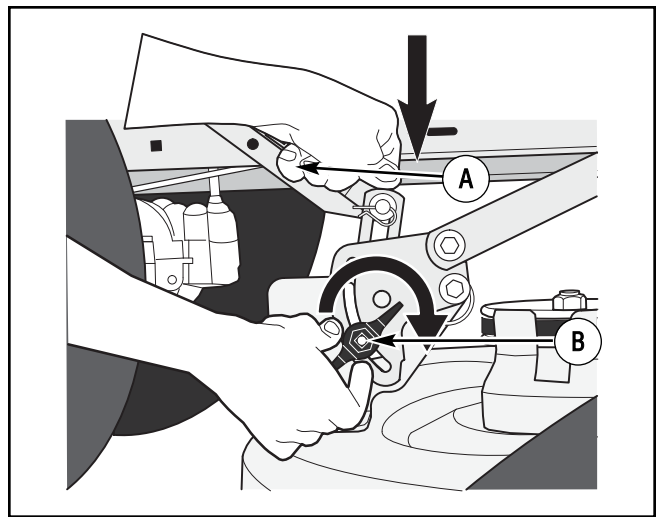

Figure 36: Loosening adjuster knobs
- Loosen the left and right **adjuster knobs** (Figure 36). Push down on each side of the mower deck. Make sure both sides of the mower deck are setting on a flat surface. Also, make sure the lift links are loose and can easily move up or down.
- Push down on the **lift links** and tighten the left and right **adjuster knobs** (Figure 36). Make sure the **adjuster knobs** are tight. If necessary, use a wrench to tighten the **adjuster knobs**. For plastic **adjuster knobs**, tighten to a torque of 7 foot pounds (9,5 Nm). For metal **adjuster knobs**, tighten to a torque of 10 foot pounds (13,5 Nm).